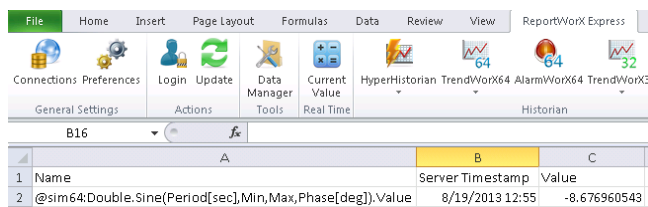

Figure 2 - Current Value
5. To view report data in the selected output range of the Microsoft Excel spreadsheet, update the report: . Your results should look similar to Figure 2.